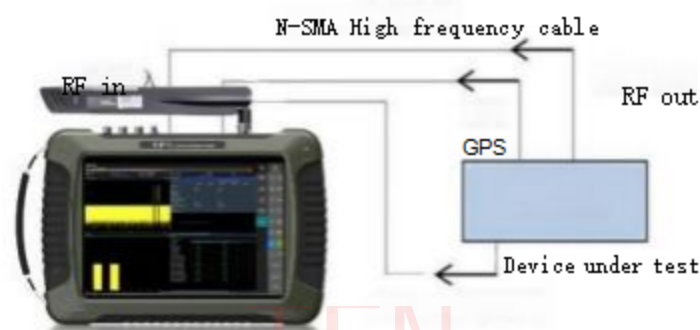

Figure 8.9 Parameter setting diagram
- In the [Signal Description] property page, select the test template: FDD E-TM1\_1\_\_1.4MHz, and the setting interface is shown in Figure 8.9: